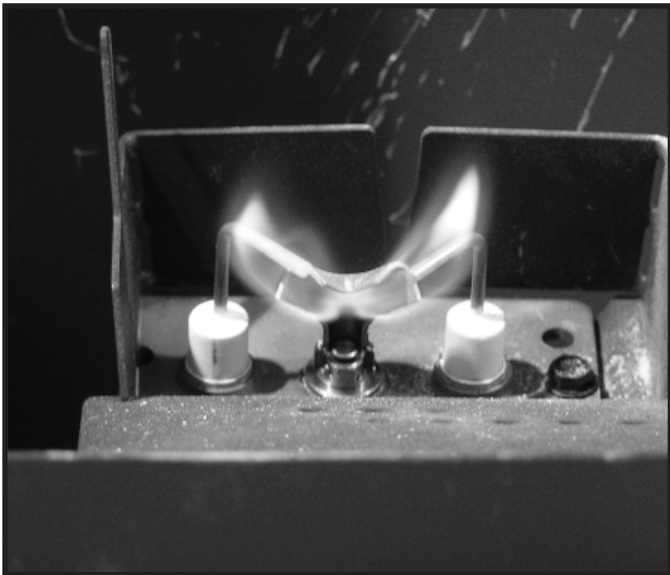

Figure 4.1 IPI Pilot Flame Pattern
- Inspect pilot flame pattern and strength. See Figure 4.1 for proper pilot flame pattern. Clean or replace orifice spud as necessary.